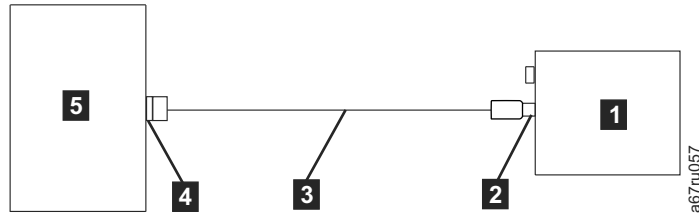

Figure 2-3. Example of connecting the USB device to the server
3. Connect the USB cable into the host and tape drive as shown. (see Figure 2-3 on page 2-5).